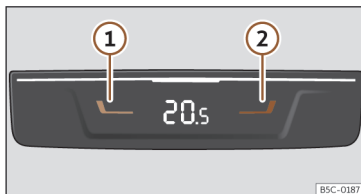

Fig. 145 In the rear part of the centre console: controls for the rear seats.
- Press buttons  and  >>> **Fig. 145** to adjust the temperature of the rear zone.